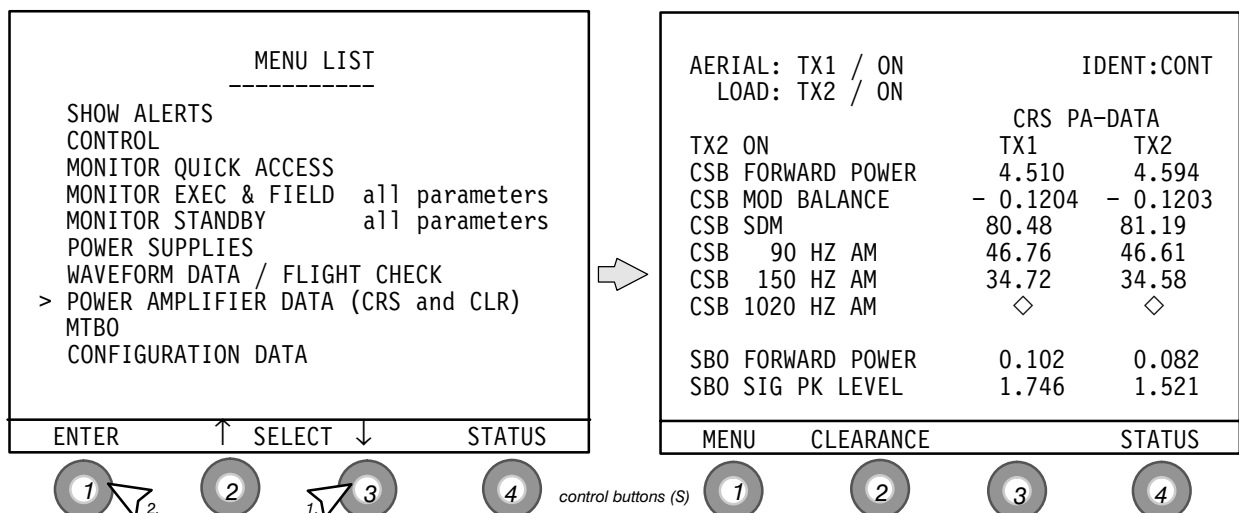

Fig. 3–24 POWER AMPLIFIER DATA (CRS and CLR) select and PA Data CRS window (example)
- S4 STATUS to return to the Status window (see Fig. 3–6)